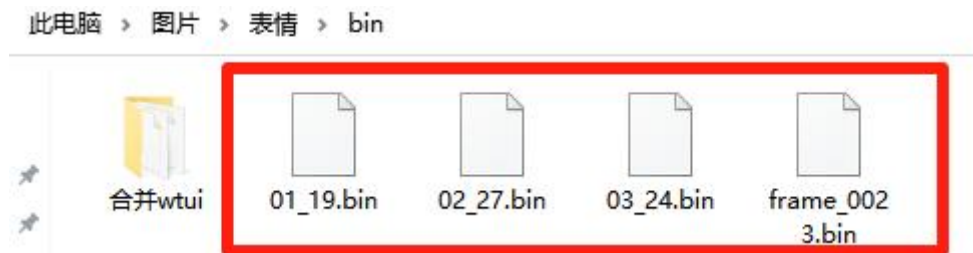

Figure 4-13 Select the filled bin file
- 1、Open the file: Select the bin file you want to fill (expand), as shown in Figure 4-13. You can